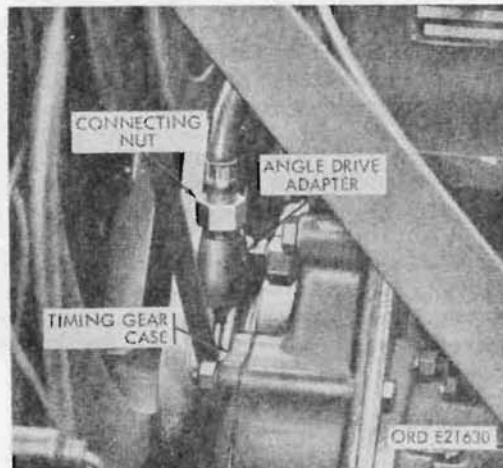

Figure 171. Tachometer flexible shaft angle drive adapter
134. Tachometer Assembly (Fig. 171)
on the timing gearcase (fig. 171). Disconnect the clips on the engine and remove the flexible shaft from the vehicle.
- (1) Removal. Disconnect the flexible shaft from the angle-drive adapter (fig. 171). Unscrew the adapter from the timing gearcase.
- (2) Installation. Screw the adapter into the adapter hole in the timing gearcase, facing it in the direction most convenient for connection to the flexible shaft. Connect the flexible shaft to the adapter (b(2)(a) above).